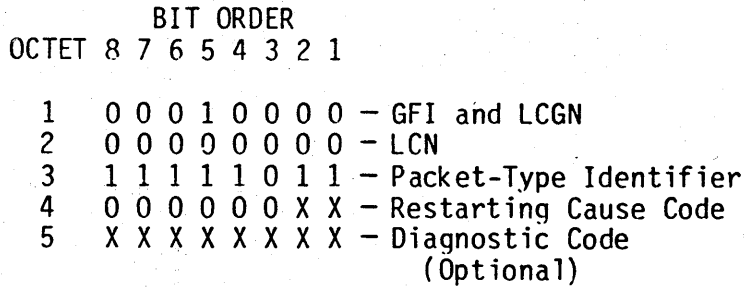

Figure 9-11. Restart Request and Restart Indication Packet Format
transmitting a restart-request packet over the DTE/DCE interface to the network. A restart simultaneously clears all virtual circuits at the DTE/DCE interface. At the other end of the circuit, the DTE receives the corresponding restart-indication packet from the network over the DTE/DCE interface. The format of these packets is shown in figure 9-11. The restarting-cause code is included as the fourth octet. A list of the codes is provided in table 9-6. The packet from the DTE issuing the request contains a restarting-cause code having the bit pattern 00000000 (00). Restarting-cause codes for restart-indication packets are issued by the network.